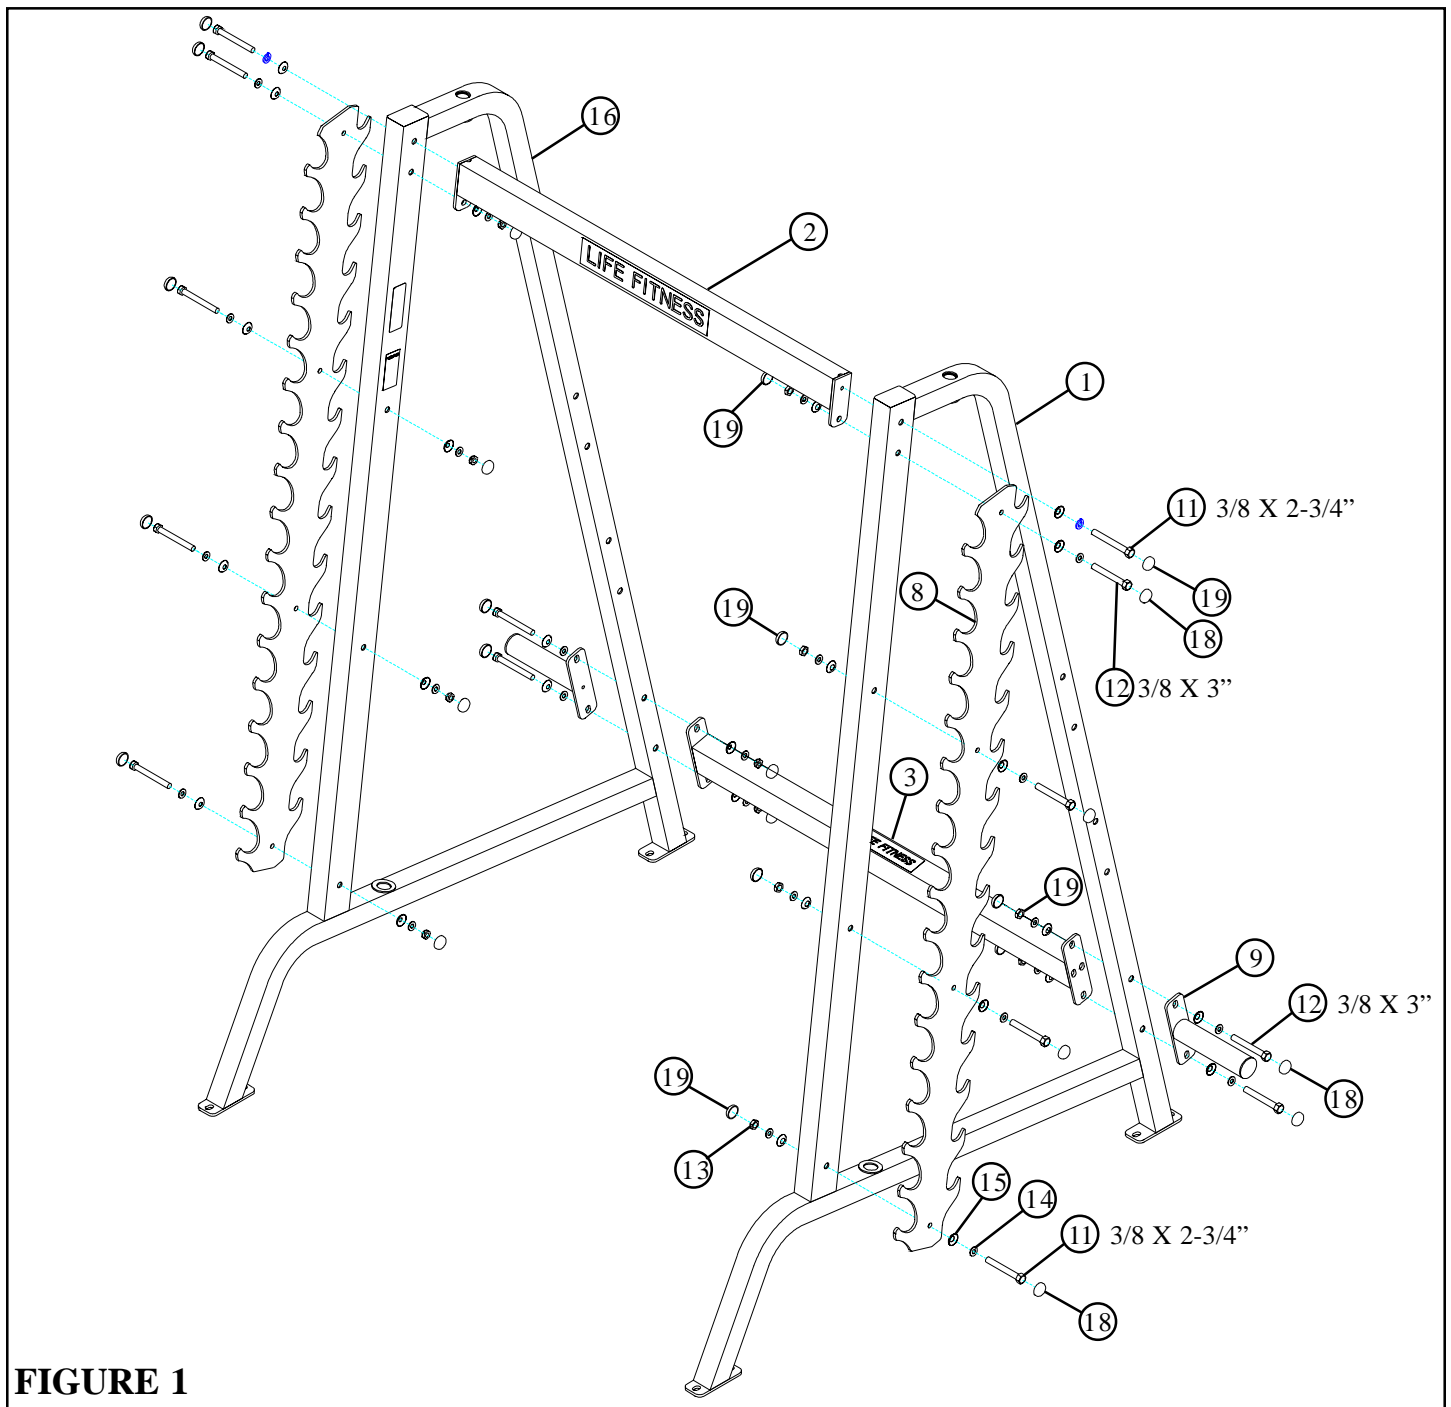

FIGURE 1
- **LOOSELY** assemble the two **WEIGHT HORNS (9)** and the **BOTTOM CROSS BRACE (3)** to the **RIGHT** and **LEFT UPRIGHTS (1 & 16)** as shown in **FIGURE 1** using using four **BLACK RH CAPS (18)**, four **RH CAPS (19)**, four **3/8 X 3" BOLTS (12)**, eight **3/8" SAE WASHERS (14)**, eight **3/8" RH WASHERS (15)** and four **3/8" LOW HEIGHT LOCK NUTS (13)** as shown in **FIGURE 1**.
- **LOOSELY** assemble the **TOP CROSS BRACE (2)** to the **TOP SET** of holes of the **RIGHT** and **LEFT UPRIGHTS (1 & 16)** as shown in **FIGURE 1** using using two **RH CAPS (19)**, two **3/8 X 2-3/4" BOLTS (11)**, two **3/8" SAE WASHERS (14)** and two **3/8" RH WASHERS (15)** as shown in **FIGURE 1**.
- **LOOSELY** assemble the **BAR SUPPORT RACKS (8)** to the outside of the **RIGHT** and **LEFT UPRIGHTS (1 & 16)** as shown in **FIGURE 1** using eight **BLACK RH CAPS (18)**, eight **RH CAPS (19)**, six **3/8 X 2-3/4" BOLTS (11)**, two **3/8 X 3" BOLTS (12)**, sixteen **3/8" SAE WASHERS (14)**, sixteen **3/8" RH WASHERS (15)** and eight **3/8" LOW HEIGHT LOCK NUTS (13)** as shown in **FIGURE 1**.